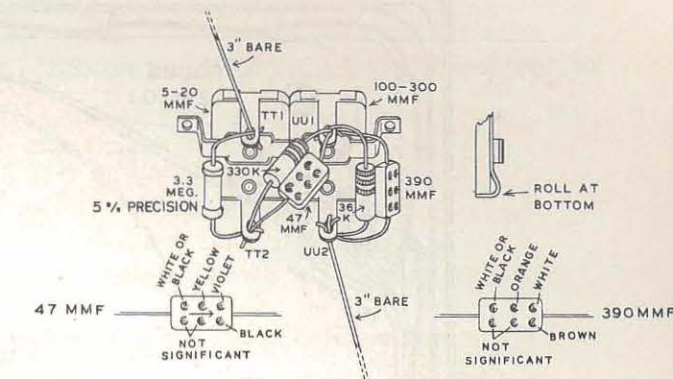
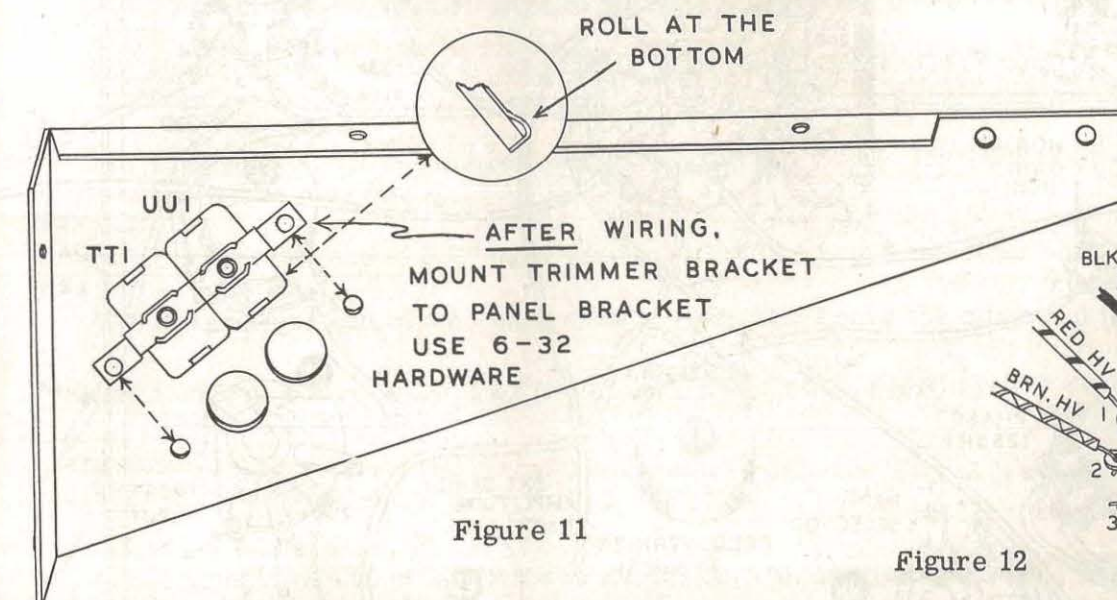

Figure 10
Figure 11
- (✓) Identify the dual trimmer assembly by reference to Figure 10. Position the part so that the roll of the trimmer plates is down, as shown in the figure. Connect a 3.3 megohm 5% precision resistor from TT1 (NS) to TT2 (NS).
- (✓) Connect one end of a 3" bare wire to TT1 (S). Leave the other end free.
- (✓) Connect a 330 K Ω 5% resistor from TT2 (NS) to UU1 (NS).
- (✓) Connect a 47 μ f mica capacitor from TT2 (NS) to UU1 (NS).
- (✓) Connect a 36 K Ω 5% resistor from UU1 (NS) to UU2 (NS).
- (✓) Connect a 390 μ f mica capacitor from UU1 (NS) to UU2 (NS).
- (✓) Connect one end of a 3" bare wire to UU2 (S). Leave the other end free.
- (✓) Identify the left-hand bracket. This is the long triangular bracket with the group of four holes near its shortest side. Mount the dual trimmer assembly as shown in Figure 11, using 6-32 hardware.